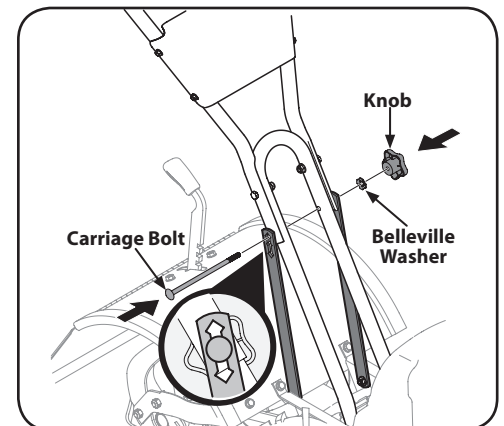

Figure 2-3
3. Loosely attach the support brackets to the outside of the handlebar assembly using the carriage bolt, belleville washer and knob. See Figure 2-3.